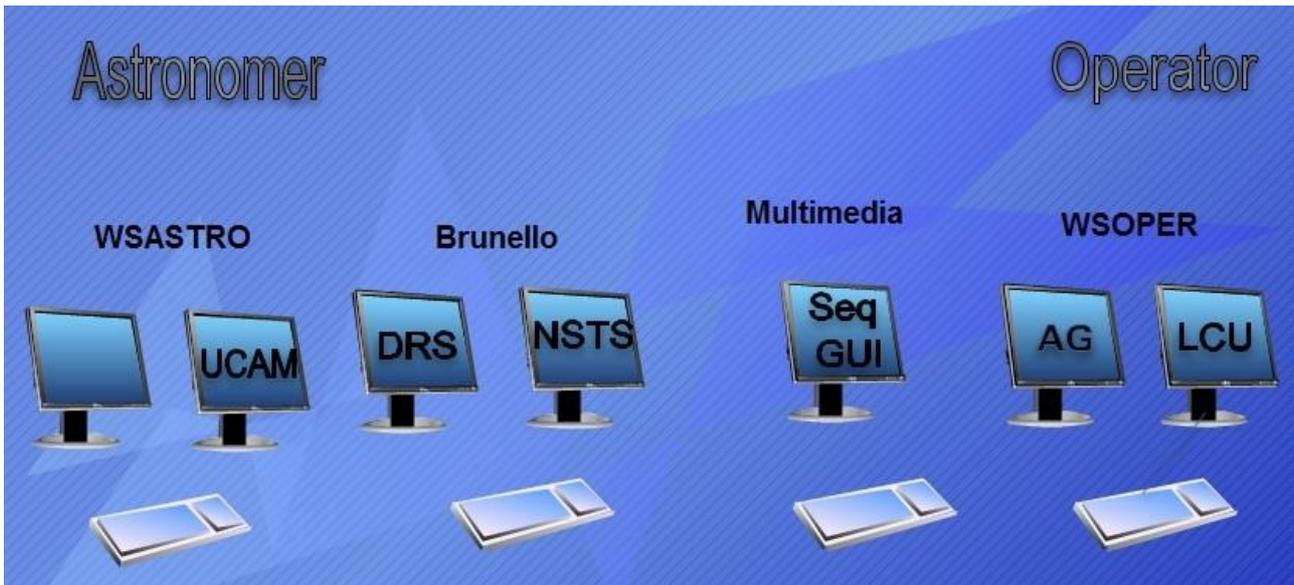

Figure 4 - Control room workstations
The workstation environment in the control room is shown in Figure 4 . The workstation WSOPER is under the control of the Telescope Operator (TO), the Brunello and WSASTRO workstations are under the control of the Visitor Astronomer (VA) and finally the Multimedia workstation is shared between the TO and the VA.